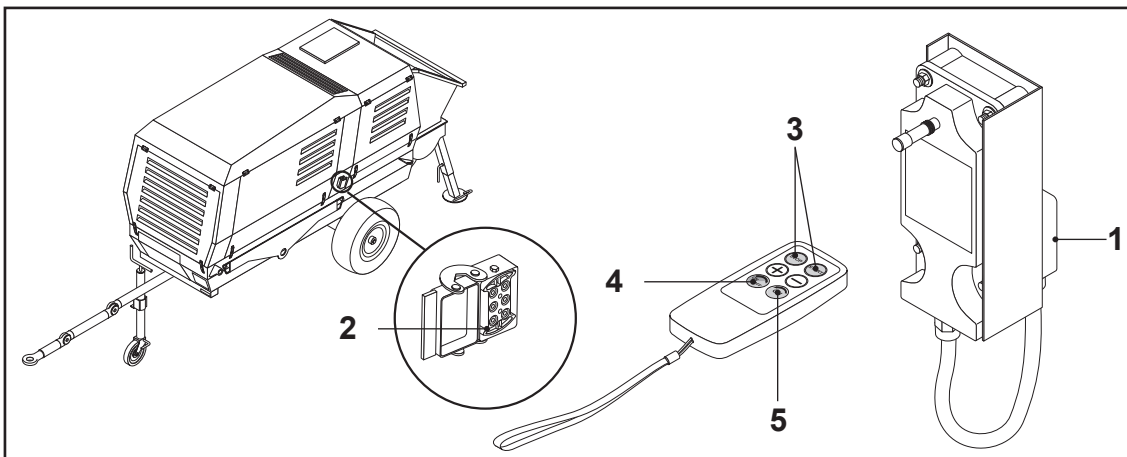

FIG.22
- Connect the plug (FIG. 22-REF. 1) to the connector socket (FIG. 22-REF. 2).
- Press the button (FIG. 22-REF. 3) to switch the remote control on and off.
- Press the button (FIG. 22-REF. 4) to start pumping. Press the button again to stop pumping.
- To reverse pumping (i.e., sucking the mix from the pipe on the hopper), make sure the button (FIG. 22-REF. 4) is turned to ON and press the button (FIG. 22-REF. 5) for the time required.